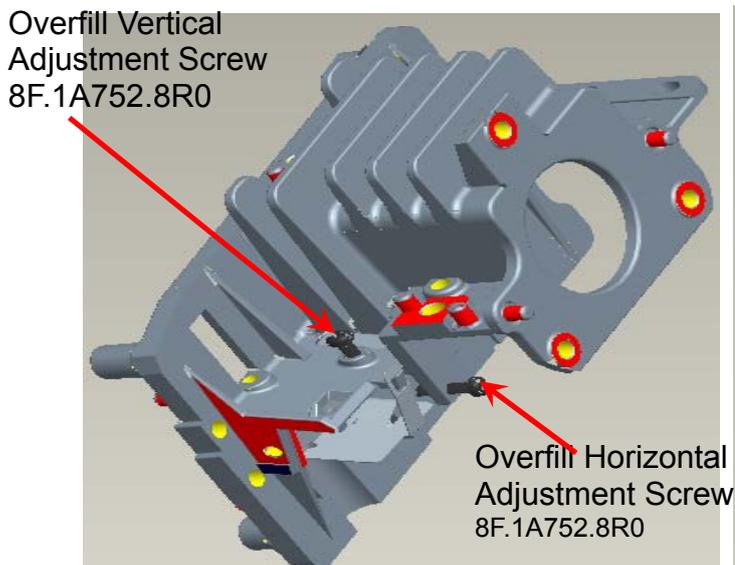
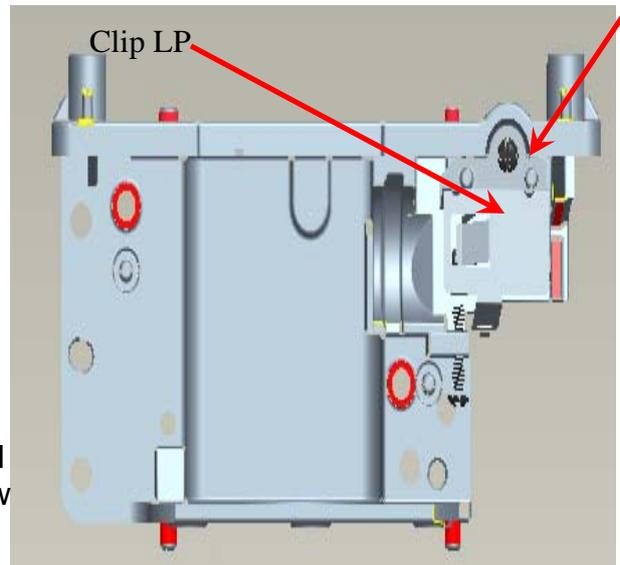

Fig. 4-4
Fig. 4-5
- i. Assembly two Overfill adjustment screws (8F.1A752.8R0) to HSG DMD (Fig. 4-4).
** Adjustment criteria refer to below item 4.6.
- ii. Assembly “Clip LP” and lock with screw well (Fig. 4-5).